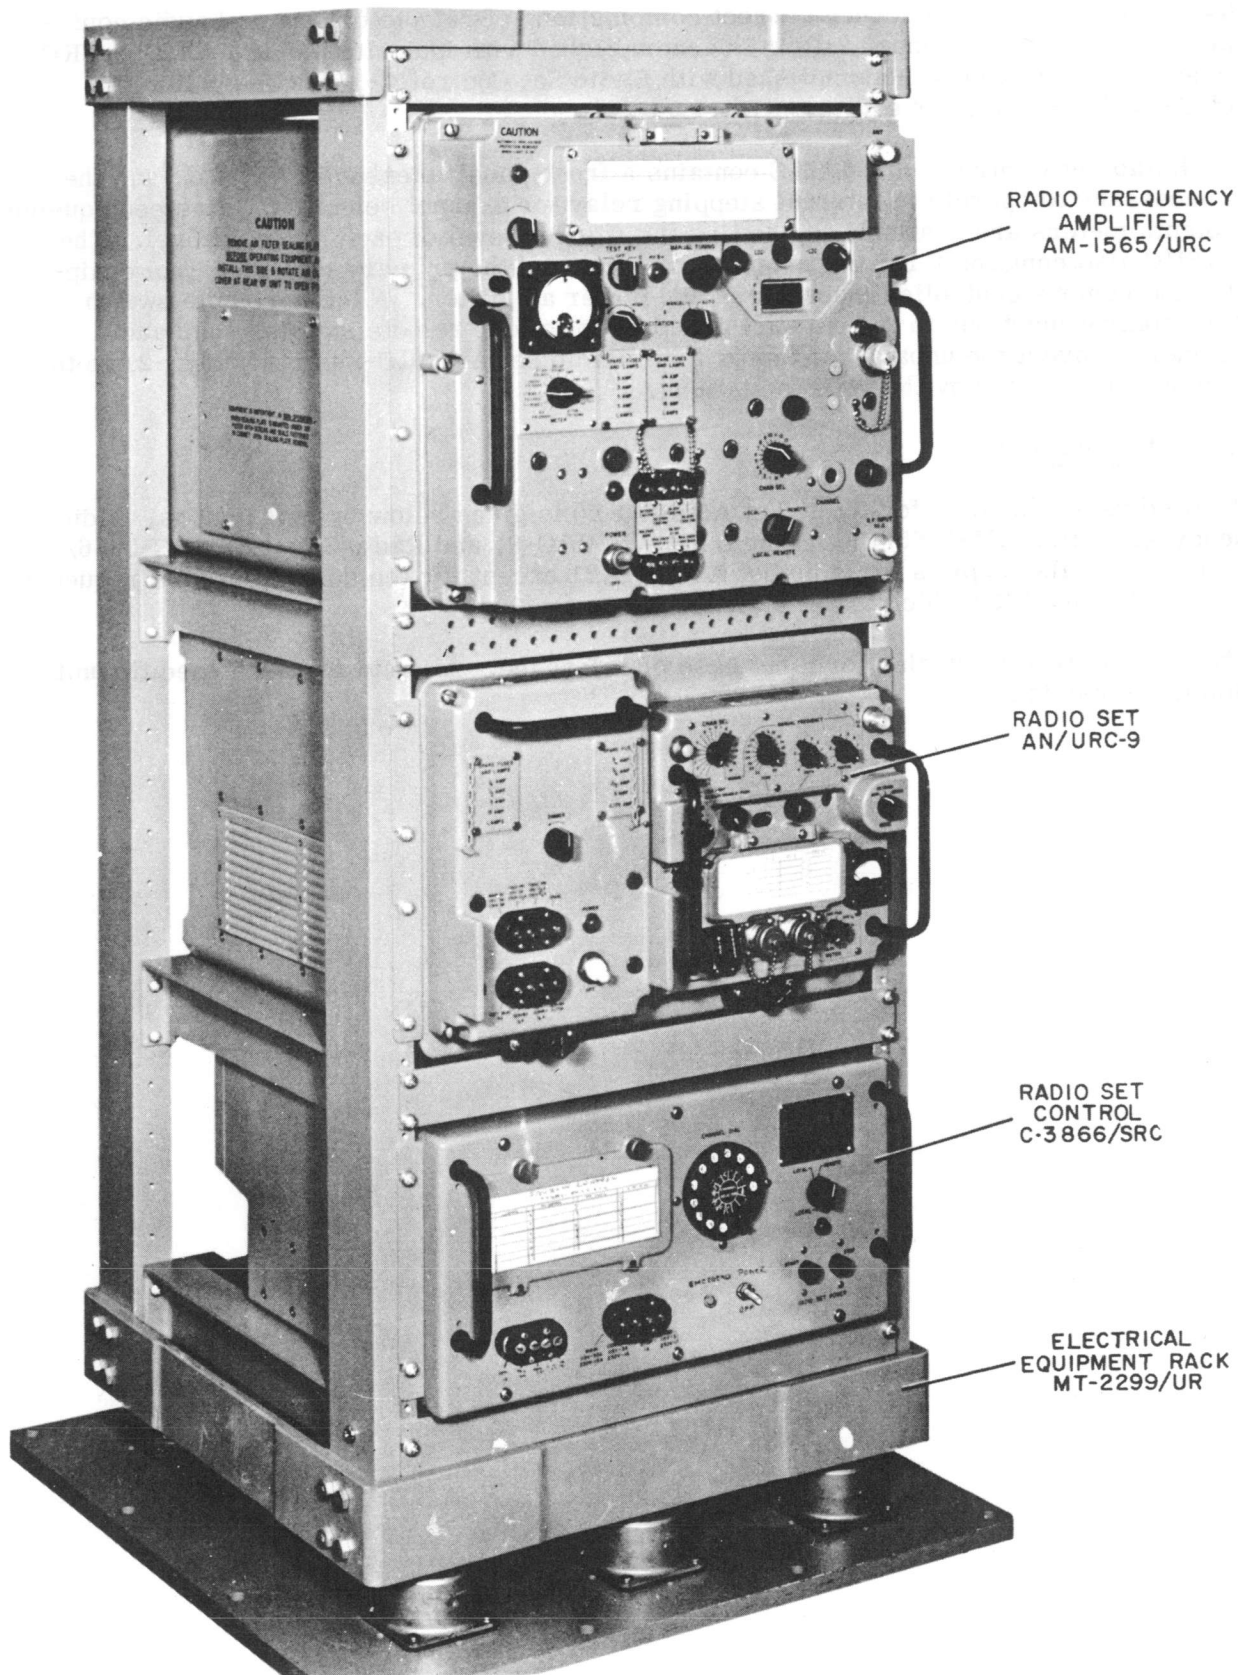
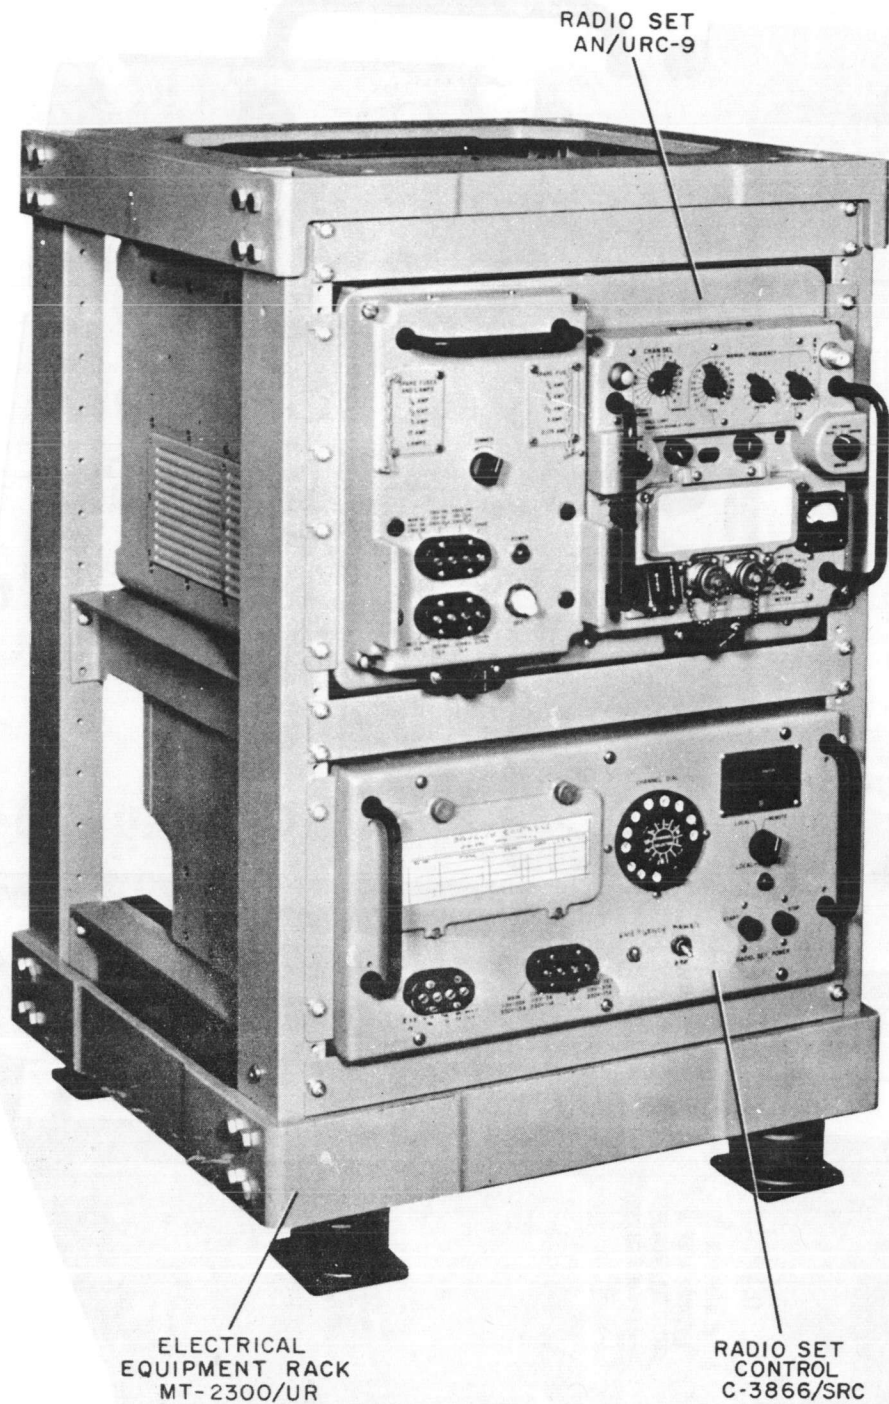

Figure 3-1. Radio Set AN/SRC-20
Figure 3-2. Radio Set AN/SRC-21
The only difference between Radio Sets AN/SRC-20 and AN/SRC-21 is the use of a linear, 100-watt, r-f amplifier in the AN/SRC-20. Radio Set AN/SRC-20 is composed of three units (figure 3-1): (1) Radio Frequency Amplifier AM-1565/URC, (2) Radio Set AN/URC-9, and (3) Radio Set Control C-3866/SRC. Radio Set AN/SRC-21 is composed of two units (figure 3-2): (1) Radio Set AN/URC-9 and (2) Radio Set Control C-3866/SRC.
Radio Sets AN/SRC-20 and AN/SRC-21, shown in figures 3-1 and 3-2, are designed for shipboard or fixed-station operation. These sets provide amplitude modulation (AM) on any of 1750 channels spaced 0.1 mc apart in the 225- to 399.9-mc range. Nineteen of the 1750 channels can be preset. Complete control, including the selection of preset channels, can be exercised from up to a maximum of four remote control points. In addition, circuits are incorporated which permit the connection of two sets for two-way automatic retransmission.
Radio Sets AN/SRC-20 and AN/SRC-21 differ in that Radio Set AN/SRC-21 does not incorporate the 100-watt uhf linear amplifier (AM-1565/URC) used by Radio Set AN/SRC-20 (see figure 3-1). In all other respects, the two sets are identical.